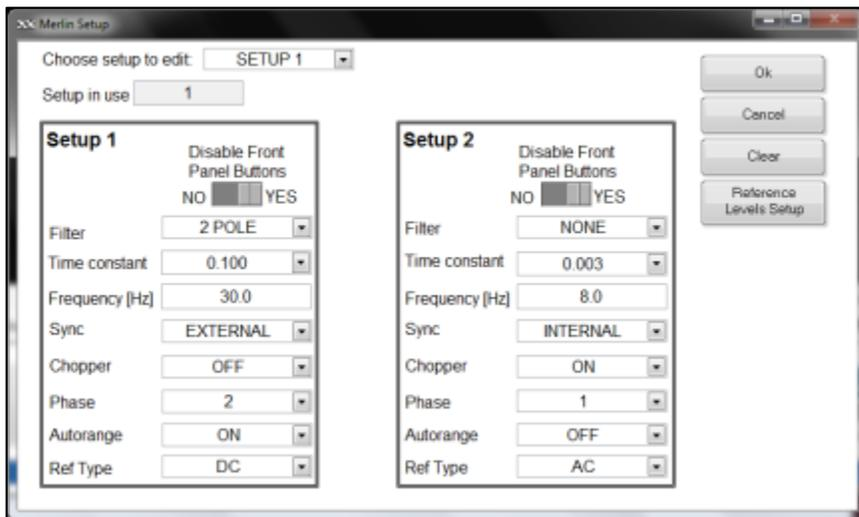
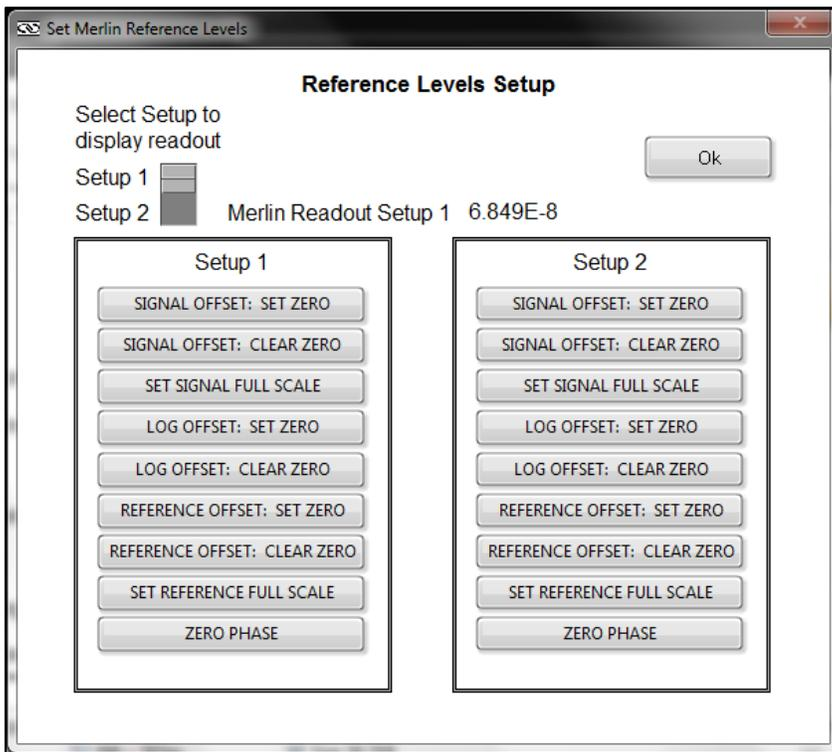

Figure 131: Merlin Operating Parameters Setup, Single Channel.
Figure 133: Merlin Reference Levels Setup.
To access and set up the features for the Merlin, go to the pulldown menu Detection Instrument → Setup Parameters. Each channel has two setups; Single Channel (Fig. 131) and Dual Channel (132), respectively. Always ensure the correct setup and channel are selected. It is suggested to disable the Merlin’s front panel buttons to ensure there are no communication conflicts while operating the software. Additional features may be accessed by clicking on the “Reference Levels Setup” button (Fig. 133).